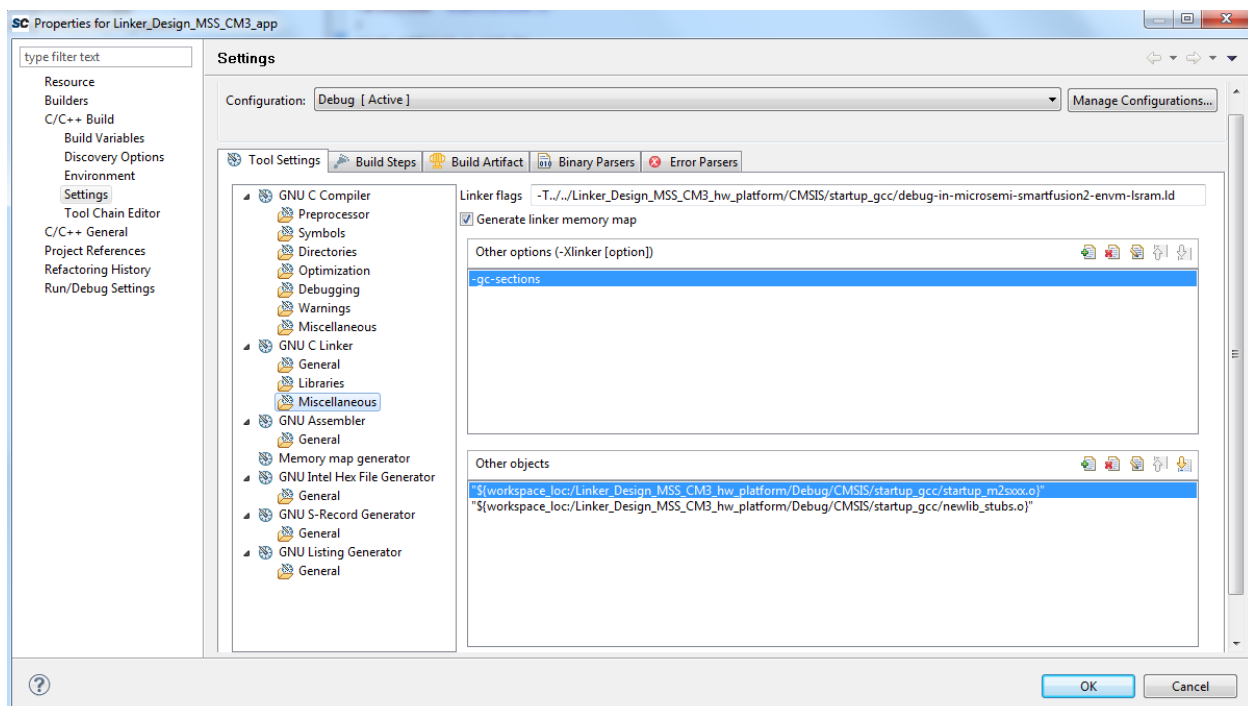

Figure 19 • Selecting Linker Script eNVM-LSRAM for Implementation 3
- To run implementation 3, where the code is loaded into eNVM and the subroutine is loaded into LSRAM in fabric, the eNVM-LSRAM linker script needs to be selected as shown in Figure 19.